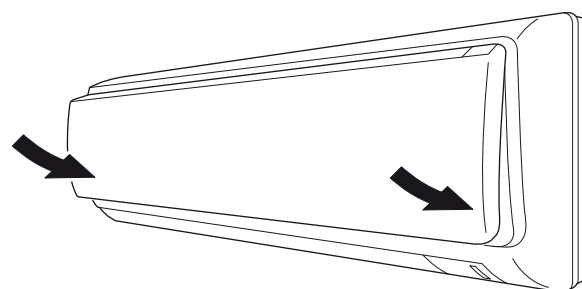

Fig. 19-1
- (6) Press the bottom right and left corners of the front panel to attach it to the indoor unit. (Fig. 19-1)